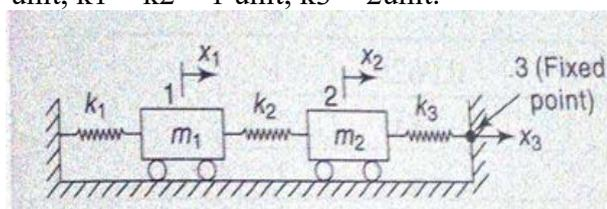

Figure 6
- b. For a system shown in figure 6 obtain the natural frequencies by Holzer's method. Take $m_1 = m_2 = 1 \text{ unit}$, $k_1 = k_2 = 1 \text{ unit}$, $k_3 = 2 \text{ unit}$.